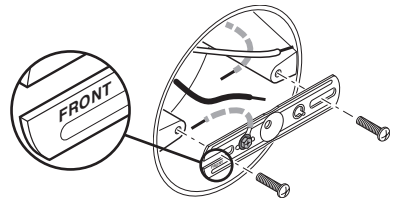

Figure 1
2. Install the mounting bracket with the stamped word “FRONT” facing away from the junction box (see Figure 1). Use the mounting bracket screws that best fit the junction box.